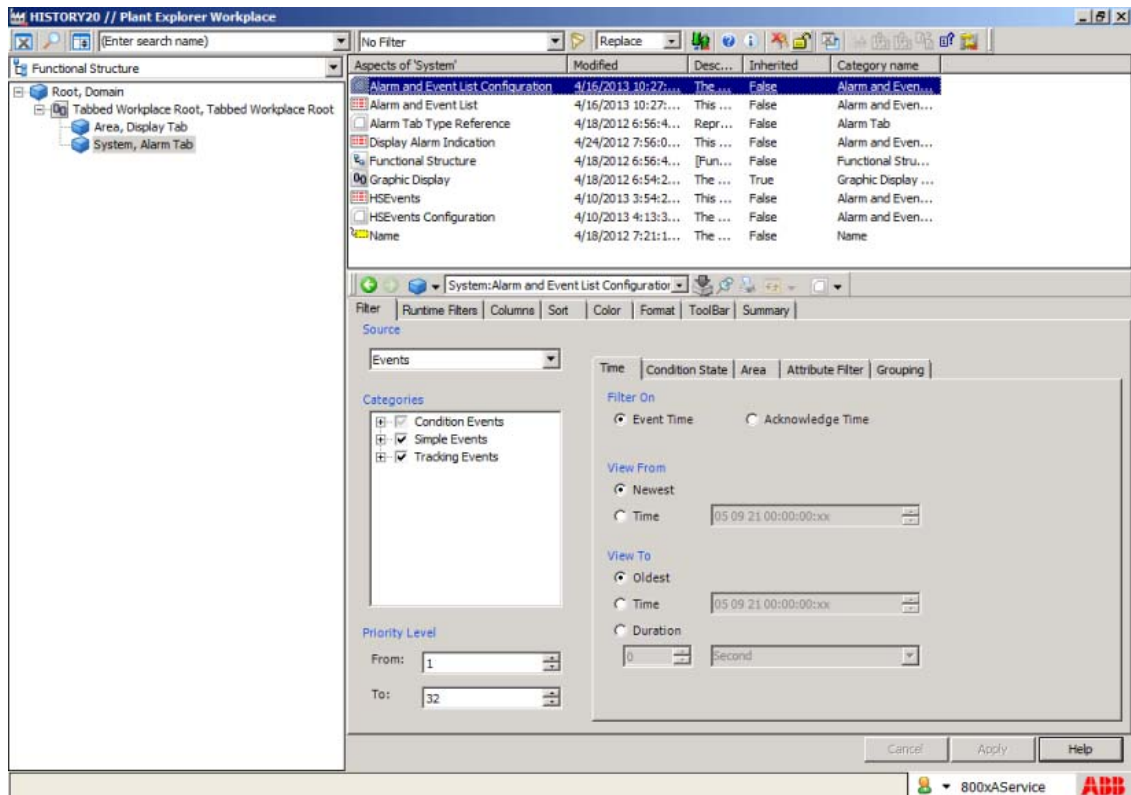

Figure 238. Alarm and Event List Configuration aspect is created
- Click **Copy Template** and **Apply**. Alarm and Event List Configuration aspect is created and appears in the Aspect pane as shown in Figure 238.